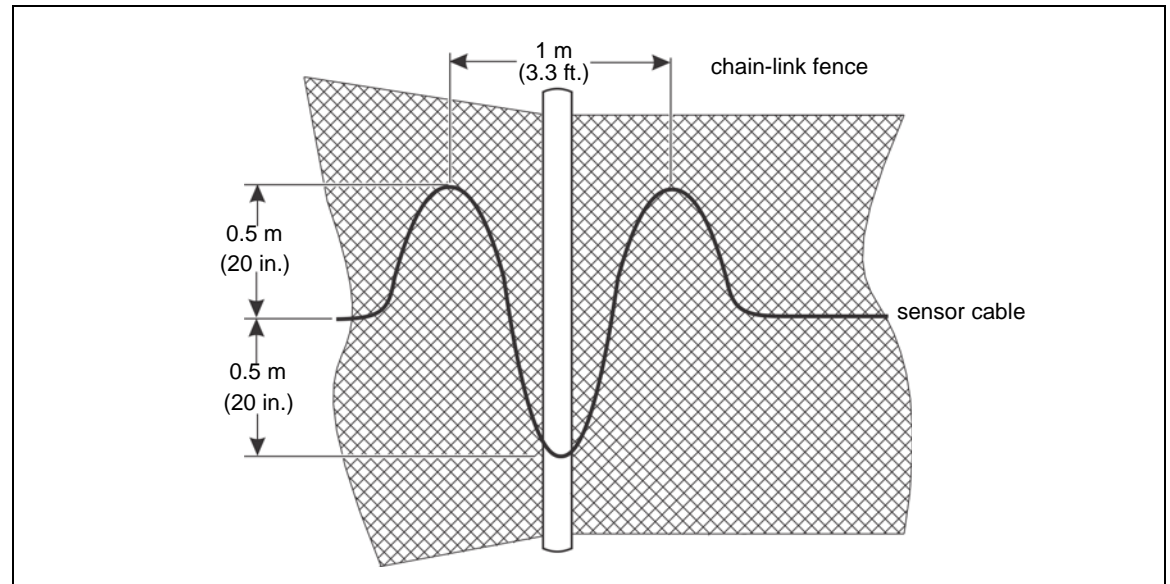
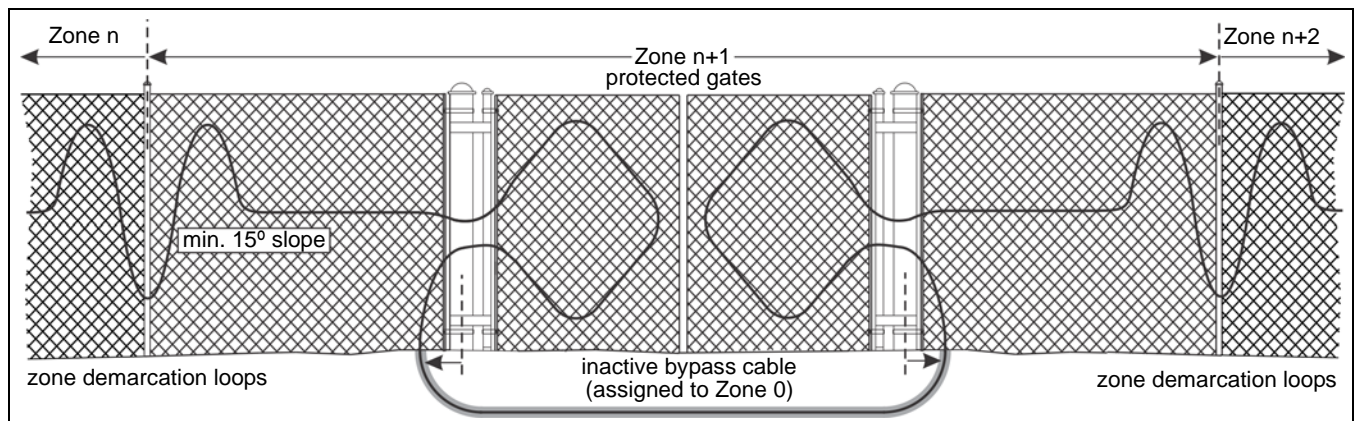

Figure 25: Sensitivity loops at corner and at heavy gauge posts
Figure 26: Optional Zone demarcation loops for software defined zone boundaries (protected gate access)
- Optionally, install zone demarcation loops at soft zone boundaries for increased zone isolation. The extra cable helps ensure that valid targets are located accurately in the correct zone. See Figure 25: for zone demarcation loop layout recommendations and Figure 26: for suggested use.